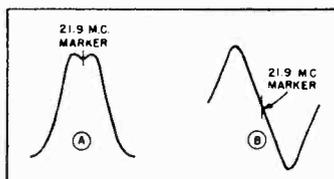

Fig. 8. T-V Audio I-F Curves
8. HIGH VOLTAGE SUPPLY (See Figure 8)—